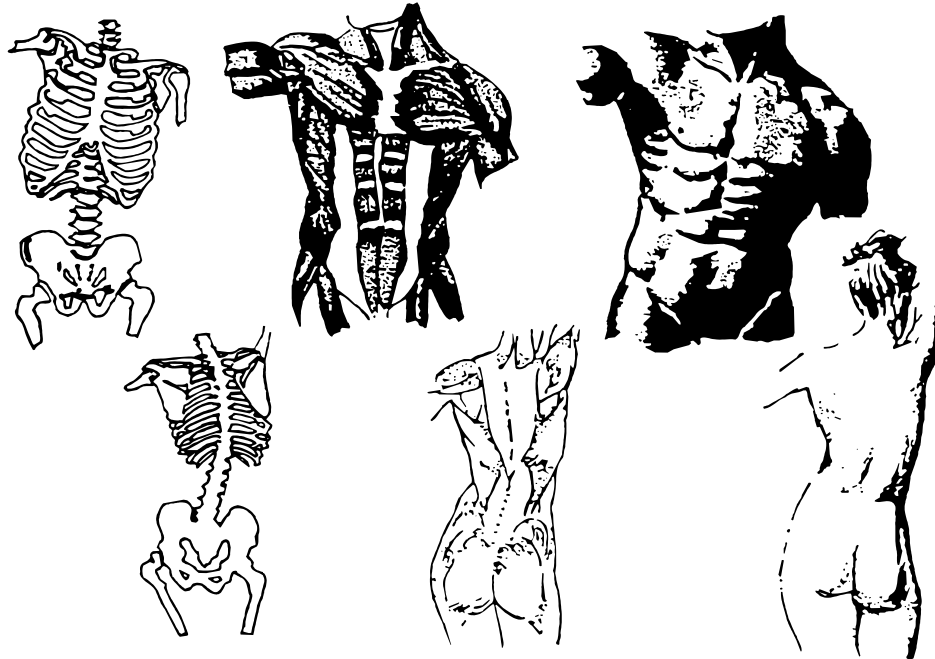

Figure K-3. The torso.
(2) The female's hips are proportionally the same as the male, but the female's torso is smaller. (See Figure K-3.) Also, her ankles, wrists, and fingers are proportionally thinner than the male.
(3) The female's lower legs taper to thinner ankles and smaller feet than do the male. In profile, the female figure is narrower than the male. Other differences include her smoother muscles, higher waistline, longer torso (Figure K-3), shorter legs, and shallow pelvis. Note the greater distance between the pelvis and rib cage of the female. The illustrator notices these subtle differences.